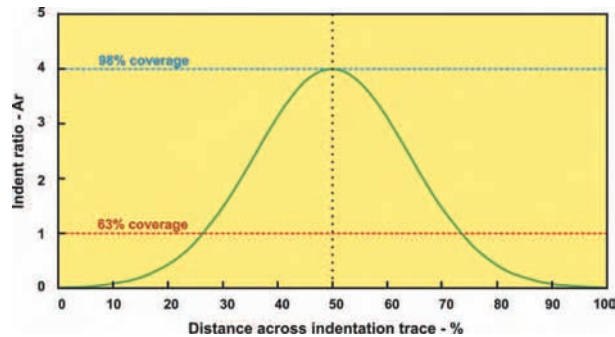

Fig.2 Model of indent ratio variation across an indent trace when Ar_{max} is 4.0
Fig.2 shows the 'normal' distribution predicted by equation (1) when $Ar_{max} = 4$. The inclusion of the coverage levels illustrates the considerable difference between indent ratio variation and coverage variation.